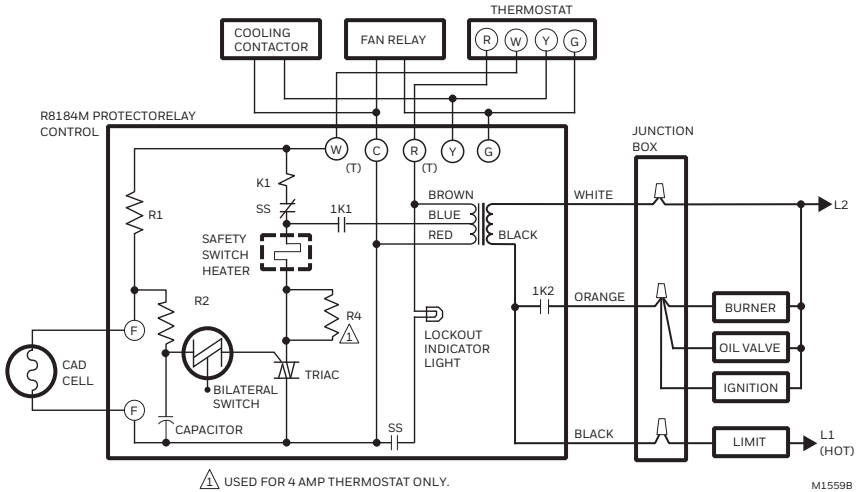

Fig. 1. Wiring diagram of R8184M.
2. Make line voltage connections as shown in Fig. 1.
5. Connect all remaining low voltage wiring connections as shown in Fig. 1.